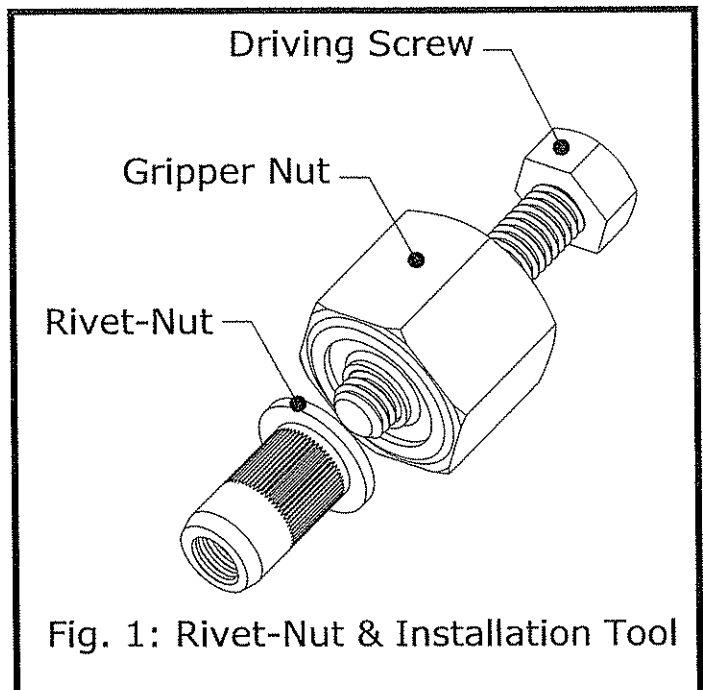

Fig. 1: Rivet-Nut & Installation Tool
4. Slide Gripper Nut onto Driving Screw with its flat end against the screw head, & its recessed end toward the screw tip (Fig. 1).